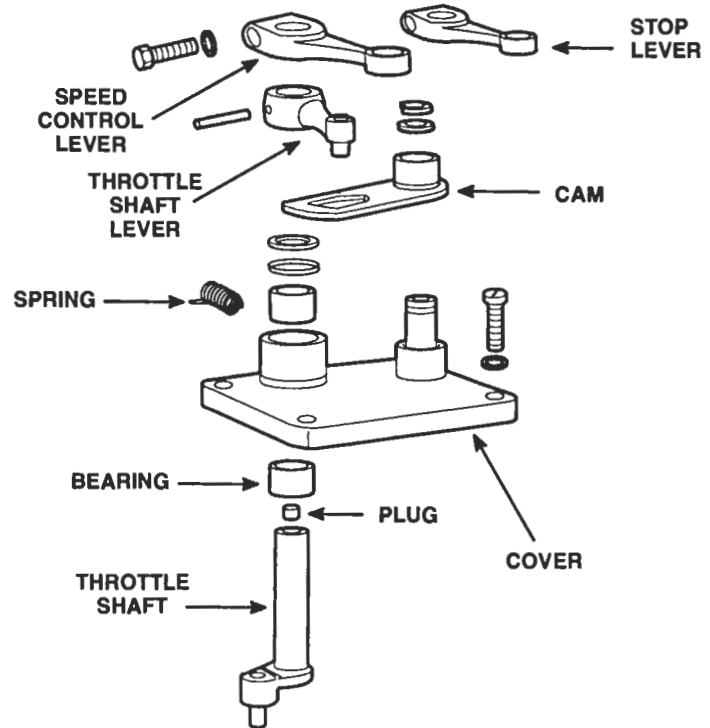

Figure 3. Governor Cover and Components
- a. Remove the plug from the throttle shaft (Figure 3.)